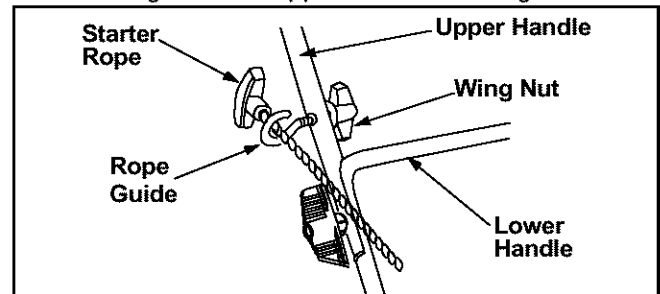

Figure 3
- Loosen the wing nut which secures the rope guide to the right side of upper handle. See Figure 3.